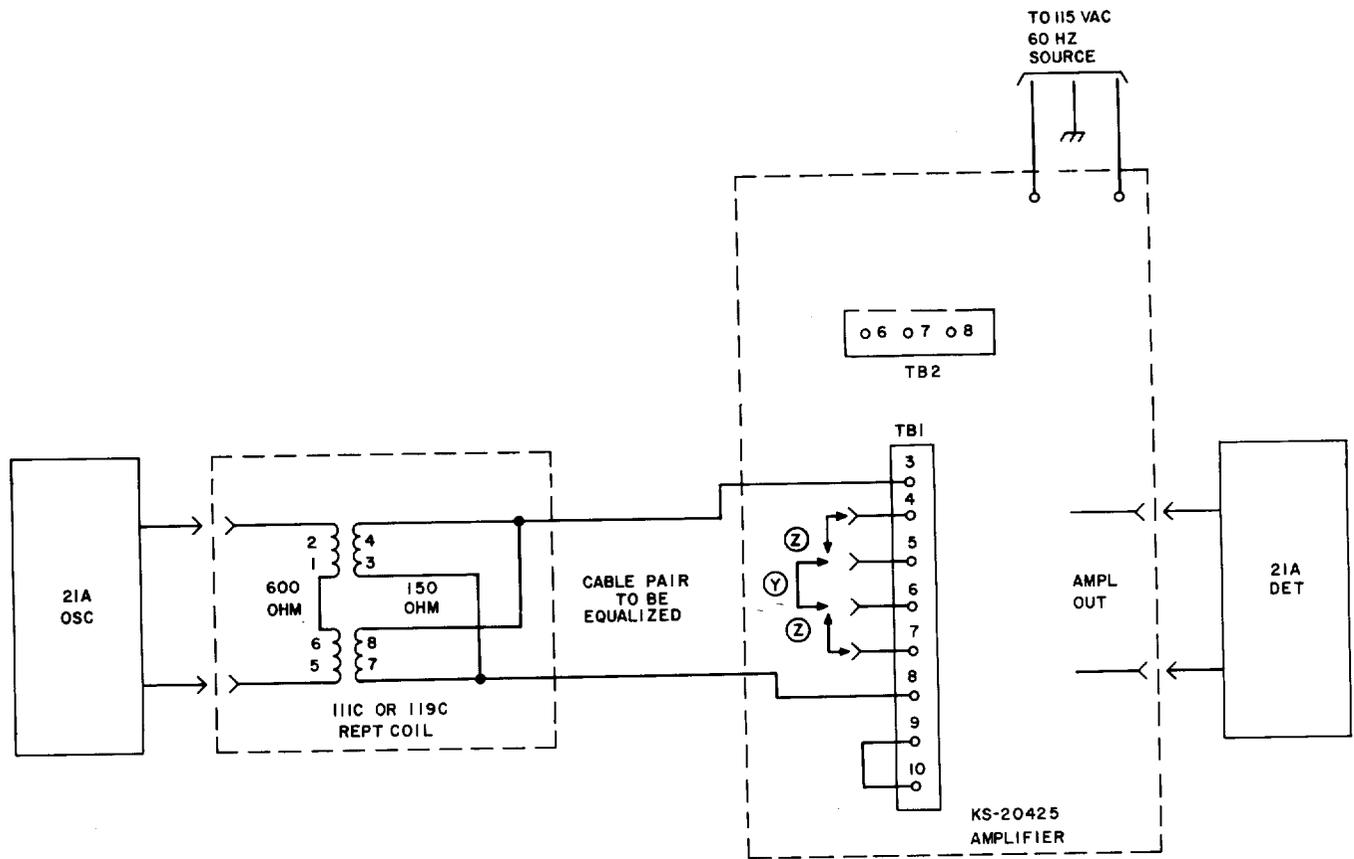

Fig. 3—Test Setup for Equalizing a Single Section Using the KS-20425 Amplifier System
- 2 Connect the equipment as shown in Fig. 3. Note the connection to the repeat coil at the sending end.